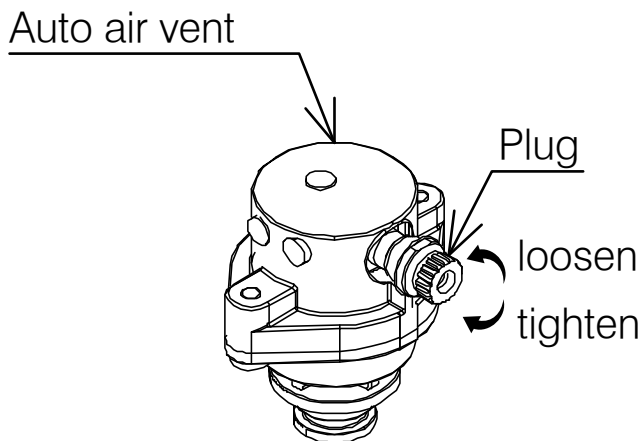

Figure 4-3: Auto Air Vent
3. Remove the front casing and loosen the plug on the automatic air vent located inside the heat pump. Refer to Figure 4-3.